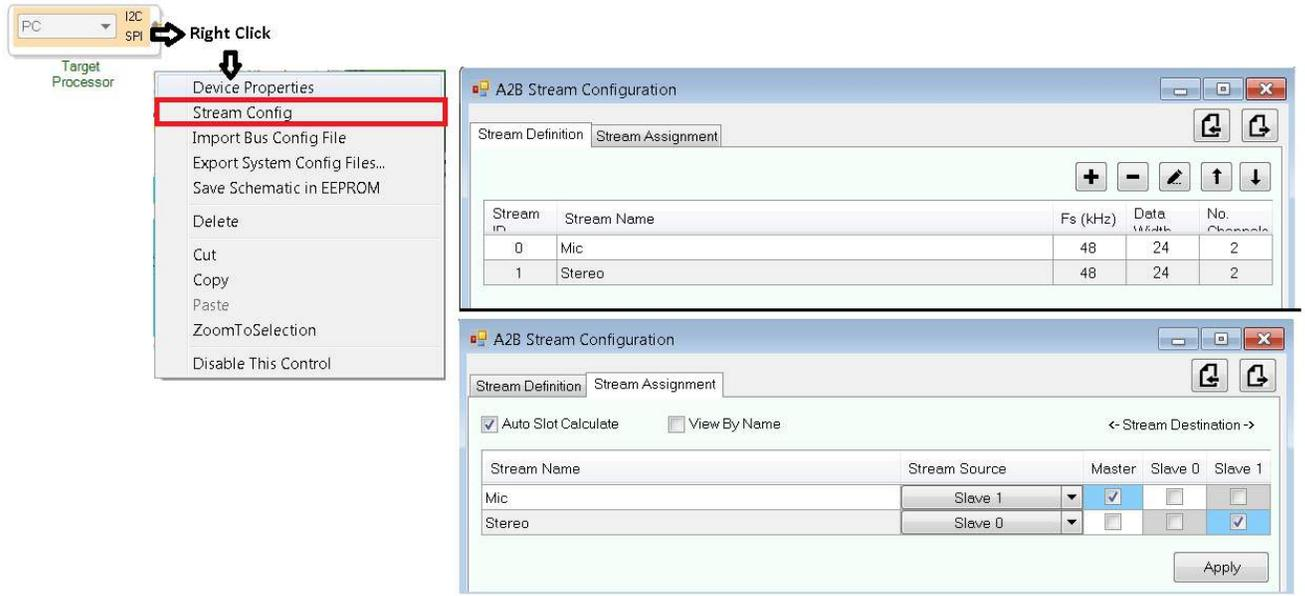

Figure 4: Stream Configuration
- The microphone data from slave0 is played out of the headset connected to slave1. Select the source and destination in the *A2B Stream Configuration* window to change the routing. The *Stream Config* tab (right-click on *Target Processor* → *Device Properties* → *Stream Config*) to define audio streams across the nodes, as shown in Figure 4. When the *Apply* button is clicked, the stream assignments configure the upstream and downstream slots accordingly across the nodes.